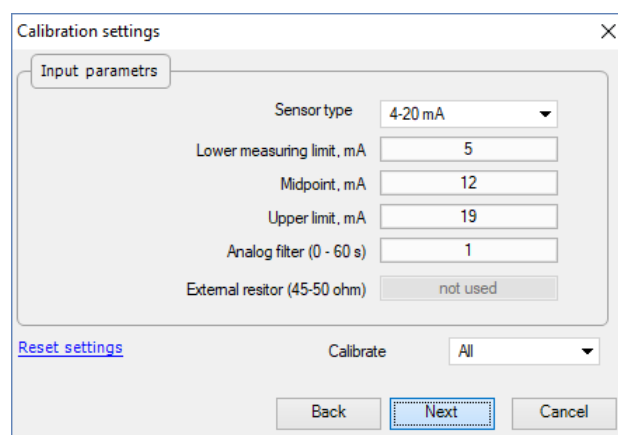

Abb. B.3 Parameter configuration
6. Select the type of input signal and other calibration parameters (Fig. B.3).